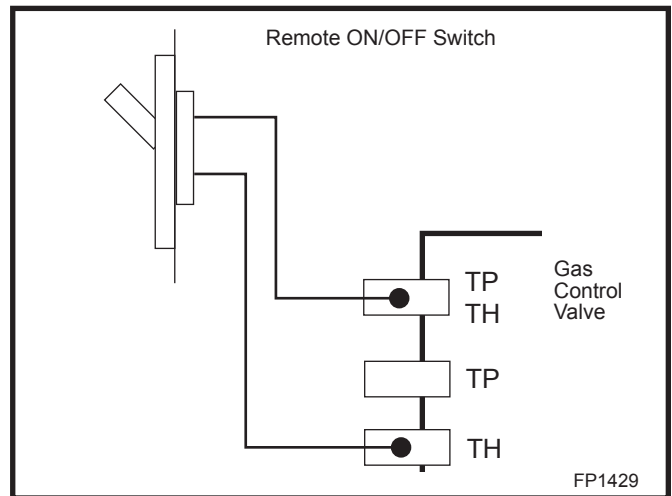

Fig. 7 Remote switch wiring diagram for R models.
3. Connect the other ends of the wire to the gas control valve, as shown in Figure 7.